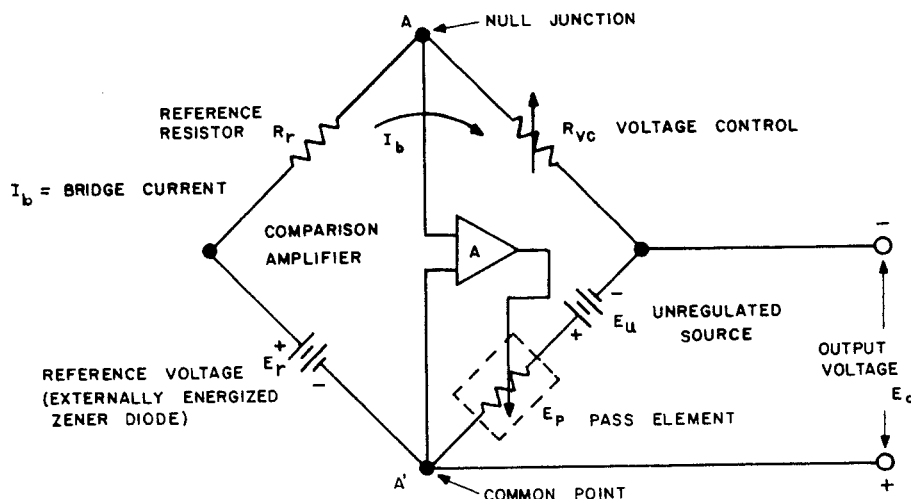

FIG. 3-4 KEPKO POWER SUPPLY AND COMPARISON BRIDGE CIRCUIT.
- 3-8 **GENERAL.** A few general remarks may be in order to familiarize the user of this equipment with the terminology and basic equations pertaining to remote programming of the Kepco PAT Power Supplies. Electrically, the power supply consists of the unregulated d-c source (E_u), the pass element (E_p), the d-c error amplifier (A), and a comparison circuit which resembles a 4-arm electrical bridge. (Refer to FIG. 3-4.) The elements of the bridge are arranged to produce a virtual zero at the amplifier input when the bridge circuit is at balance ($V_{AA'} = 0$). Any tendency for the output voltage to change in relation to the reference voltage (E_r) creates an error signal which, by means of negative feedback and the amplifier, tends to correct the output voltage towards restoration of bridge balance.